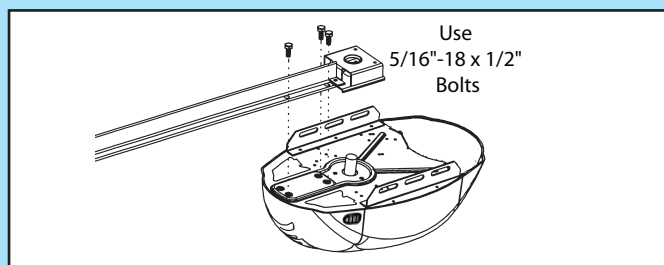

FIG. 1-5 Rail - Power head assembly.
1. Attach rail assembly to power head by aligning the sprocket onto the motor shaft. Use (3) bolts, 5/16"-18 x 1/2" (Fig. 1-5).